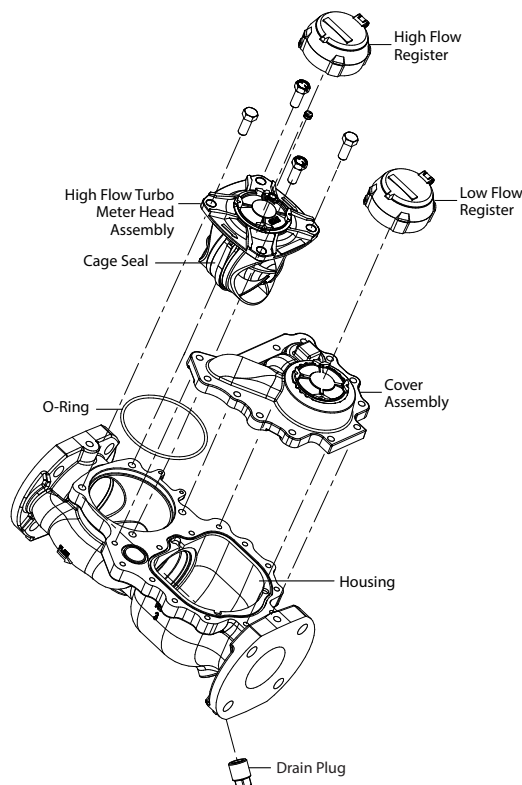

Figure 8: Removing the high flow turbo meter head assembly
A typical installation would be equipped with drain and piping valves. To inspect or replace components of the High Flow Turbo Head Assembly, close the upstream and downstream valves. However, if the installation does not have a drain valve, proceed as follows to relieve pressure. See Figure 8.
4. Remove the retaining ring that holds down the calibration drive plate, located under magnet carrier magnet (see Figure 8 on page 8). Remove drive plate. Rotate calibration ring until pin clears slot of cage. Take hold of the nose cone/straightening vanes and turn clockwise. Pull the nose cone assembly out from the measuring element insert. Remove rotor assembly.
A typical installation would be equipped with drain and piping valves. To inspect or replace components of the Low Flow side, close the upstream and downstream valves. If the installation does not have a drain valve, proceed as follows to relieve pressure. See Figure 8 on page 8.